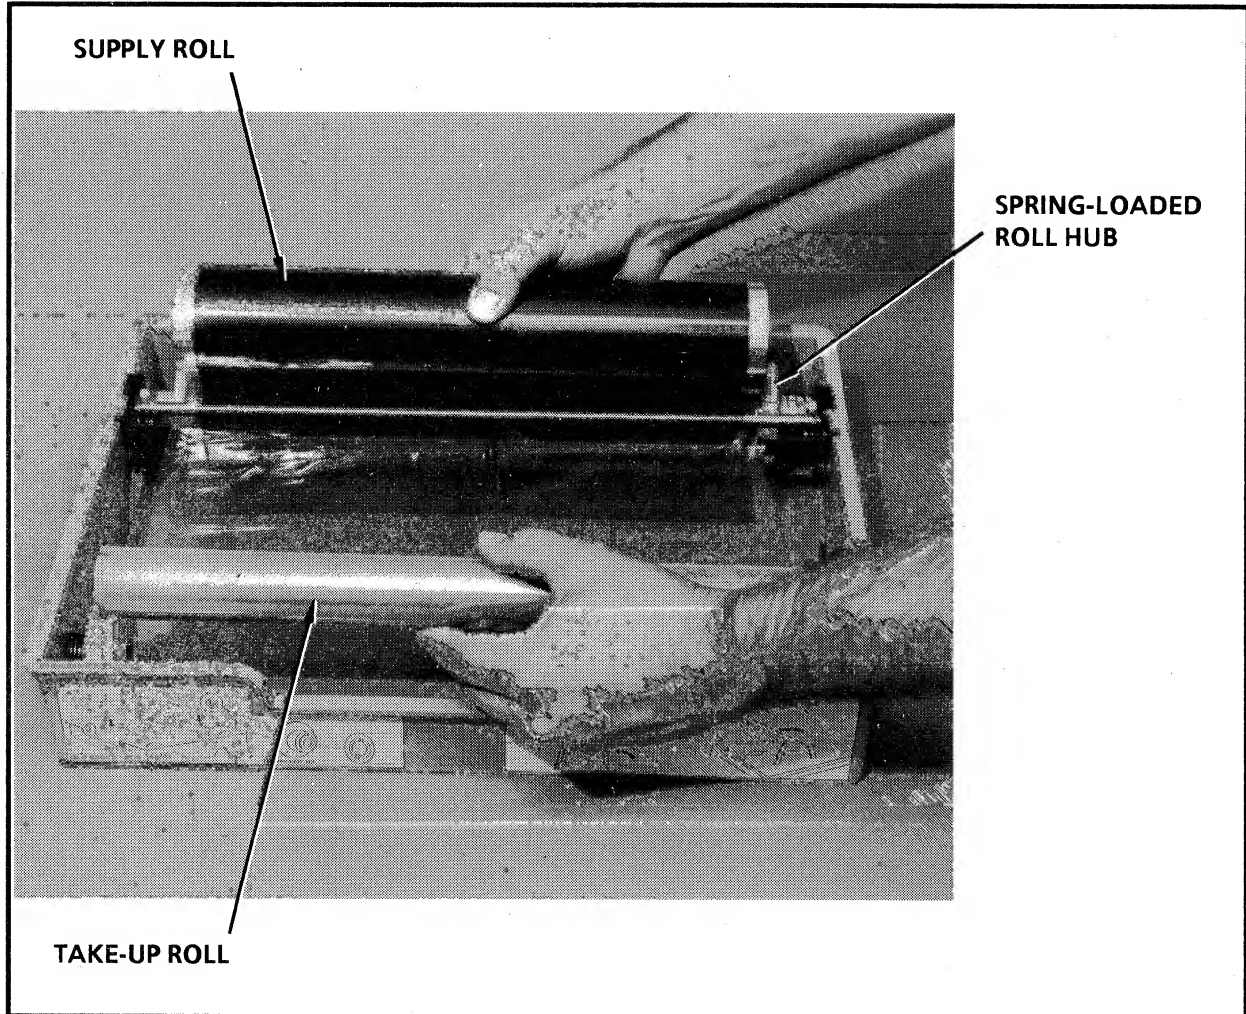
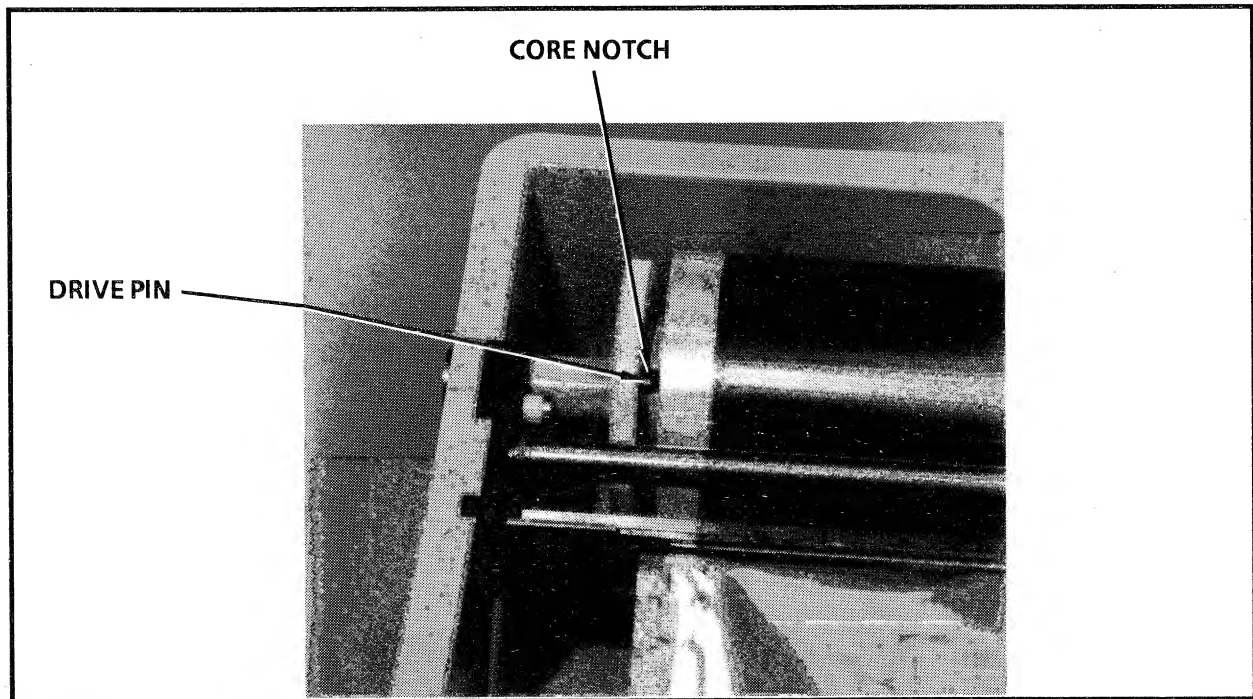

Figure 3-4. Mounting the Ink Donor Roll
Figure 3-5. Aligning the Donor Roll (Supply Side)
6. Positioning the new ink donor roll as shown in Figure 3-4, press the right end of the supply roll onto the spring-loaded hub and slip the left end over the roll holder, ensuring the drive pin on the holder is aligned with one of the notches on the donor roll core (Figure 3-5).